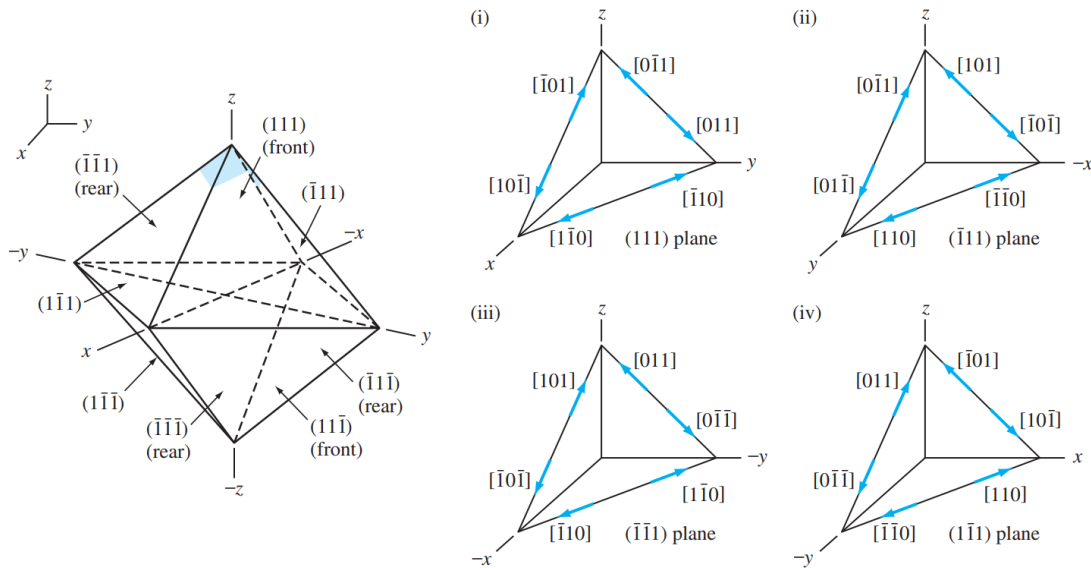

Figure 1: FCC Slip Systems
There are 12 slip systems in an FCC unit cell. The Figure 1 shown in Part B is a wonderful illustration that shows that there are four (111) -type planes that contain three $[\bar{1}\bar{1}0]$ -type directions.
Figure 1 is taken from *Foundations of Materials Science and Engineering* by William F. Smith, et al. William F. Smith, et al. states, “There are eight $\{111\}$ octahedral planes in the FCC crystal structure. The (111) -type planes at opposite faces of the octahedron that are parallel to each other are considered the same type of (111) slip plane. Thus, there are only four different types of (111)
slip planes in the FCC crystal structure” (p. 259). The number of redundant slip systems is a subjective term. Since the instructions say to ignore the negative directions, I will assume that the negative directions are not a part of the redundancy. Instead, the redundancy occurs on the other four planes of the octahedral shown in Figure 1. This means that we have 8 planes and 3 directions along each plane, leaving us with
Here is an in class example for FCC where the slip planes and slip directions corresponding to each plane is inputted from Figure 1.